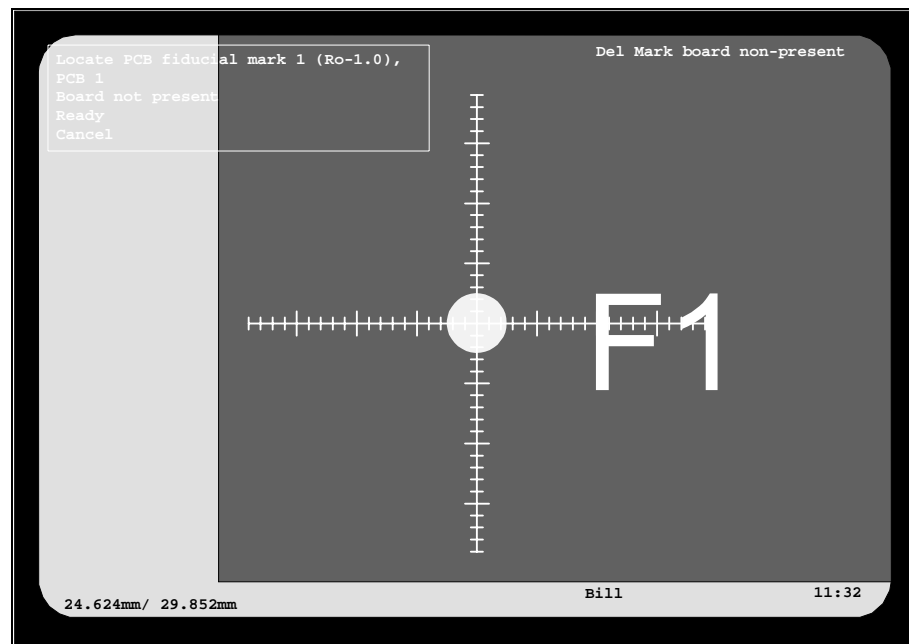

Figure 8-1. Centering fiducial mark F1
- Using the joystick or trackball, center the cross hairs on the board fiducial marks as shown in Figure 8-1.